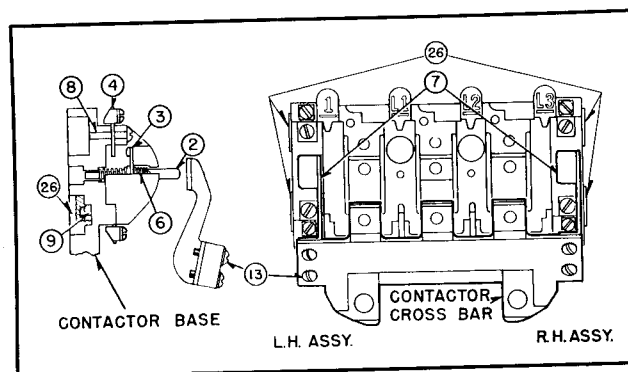
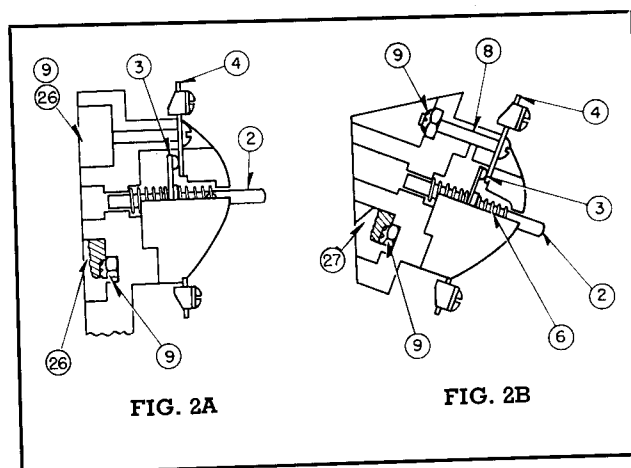
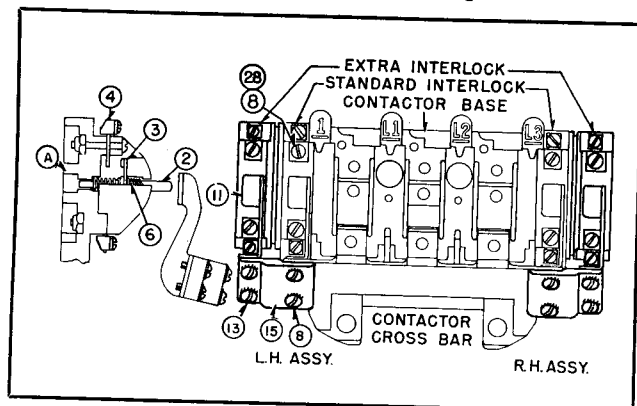
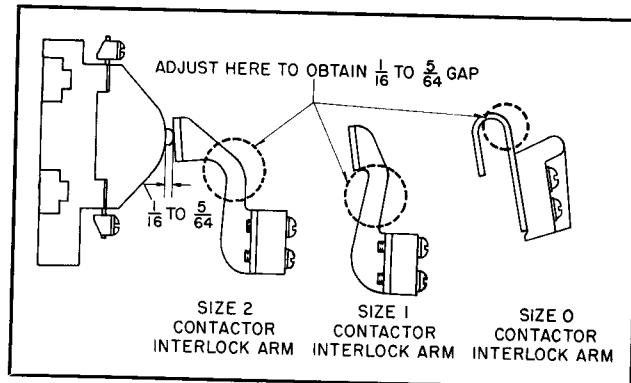

FIG. 1. Standard Normally Open (Make) Interlock
FIG. 2. Standard Normally Closed (Break) Interlock
FIG. 3. Extra Normally Open (Make) Interlock
FIG. 4. Operating Arm Adjustment (Energized Position)
TYPES L50, L51, AND L52 INTERLOCKS are designed for use on the Type N Size 0, 1, and 2 contactors and starters respectively. Each complete interlock consists of two basic parts; (1) the *interchangeable* interlock unit without operating arm and (2) the operating arm which is *different* with each contactor size (See Fig. 4).
Standard contactors and starters come equipped with a *standard* normally open interlock mounted on the left hand side. If a *second* interlock is desired, use an additional *standard* interlock on the right side of the contactor or starter (See Fig. 1, R.H. Assy.). The *extra* interlock is designed to meet the requirement of a *third* or *fourth* interlock as shown in Fig. 3.
Fig. 1 shows the 1st and 2nd interlocks assembled, using elastic stop nut item (9) and rubber nut retainers (26) placed in the slot on all contactors and linestarters assembled at the factory. Fig. 1 illustrates the use of nut (9) and retainer (26) as used on the Size 1 and 2, two and three pole units.
by reassembling parts (3), (4) and (6) in Fig. 1 as shown in Fig. 2. (To detach the smaller spring (6) from plunger (2) compress intumed end of spring against moving contact (3) and rotate spring). Replace springs in original positions, after reversing the movable contact bar, (and moving it to the other side of the plunger shoulder) and be sure the end of spring (6) is returned to the hole from which it was removed.
2. Insert into base slot the respective rubber nut retainer items (26) or (27) complete with elastic stop nut (9).
3. Mount interlock unit (without operating arm) on the contactor base as shown in Fig. 1. Interlock mounting screws need not be tightened excessively, as Elastic Stop Nuts provide positive locking.
4. Attach operating arm (11) to contactor cross bar with screws (13) supplied with the interlock.
5. With contactor closed check $\frac{1}{16}$ in. to $\frac{5}{64}$ in. gap shown in Fig. 4. If adjustment is necessary adjust operating arm *only* in area indicated in Fig. 4.
2. Slip Moldarta sub-base (A), on which interlock unit is mounted into slots provided in contactor base and secure with screws (8) & lock washers (28) as shown in Fig. 3.
3. Remove screw assembly (13), Fig. 1, and mount operating arm supplied with interlock to Moldarta cross bar extension (15), Fig. 3.
4. Attach cross bar extension (15) to the contactor cross bar with screws (8) and lockwashers (28) furnished with the interlock as shown in Fig. 3.
5. With contactor closed check $\frac{1}{16}$ in. to $\frac{5}{64}$ in. gap shown in Fig. 4. If adjustment is necessary adjust extra interlock operating arm *only* in area indicated in Fig. 4.